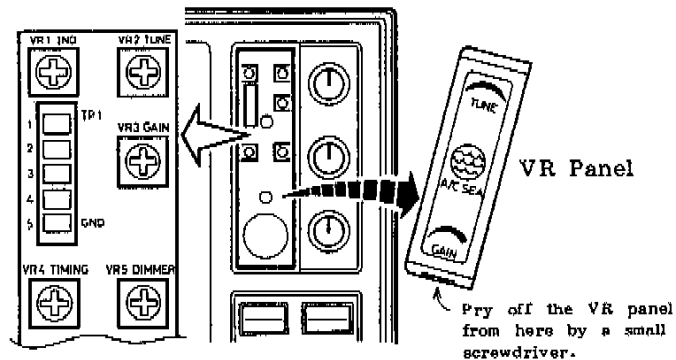

Fig.14 Location of Preset Potentiometers
1. Press the  touchpad on the Display Unit, and the control panel will light up. In approximately 1 minute and 30 seconds, the message "ST-BY" will appear at lower center of the screen. While this 90 seconds warmup is in process, pry off the VR panel on the front panel of the Display Unit. See Fig.14. This will expose the preset adjustments. Push in the front panel TUNE control and release the control to bring it out. Set the control to 12 o'clock, the GAIN control at 2 o'clock, and the A/C SEA control at fully counterclockwise.
- Bring up the GAIN control until a small amount of noise appears on the screen. At this point, unless the tuning just happens to be at the optimum point, slowly adjust the coarse "TUNE" control accessible through the VR panel, watching the screen for radar targets. (See Fig.14.) You must patiently adjust this coarse-tuning control in very small increments, allowing the sweep to go around completely in order to observe the effect of a single small change in its setting. When you are finished optimizing the coarse tuning control behind the VR panel, verify that the fine TUNE control on the front panel peaks up for maximum radar echoes at 12 o'clock, or at least close to that point.
2. Set VR3 at the position where a little background noise appears on the screen. See Fig.14 for the location of VR3.
2. Turn potentiometer VR2 ("TUNE"), located behind the VR panel of the Display Unit (Fig.14.), fully CW and then slowly turn it CCW until the maximum number of tuning bars are lit. At this moment confirm that best picture definition is obtained with the maximum number of the tuning bar displayed on the screen. If not, adjust potentiometer VR1 ("IND") so that the maximum number of the tuning bar lights up.
The illumination of the touchpad panel can be adjusted to suit your needs, by adjusting the "DIMMER" potentiometer (VR5) located behind the VR panel of the Display Unit. See Fig.14 for the location of VR5.